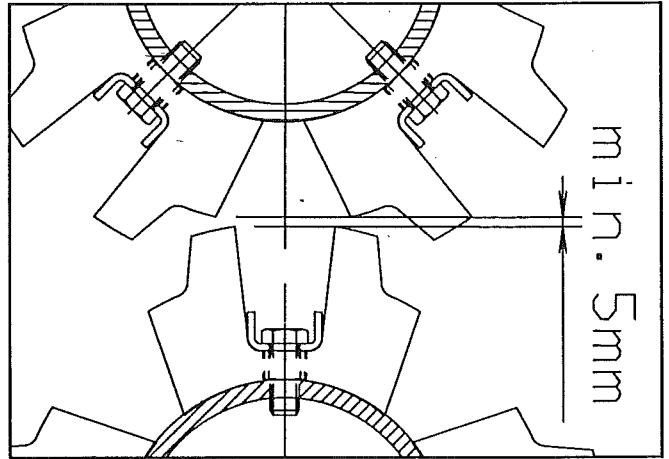

Fig. 19a
**FIG. 19A** The distance is adjusted at the screw **A** equipped with a counter nut which must be tightened well after the adjustment. The adjustment is performed on both sides of the machine.